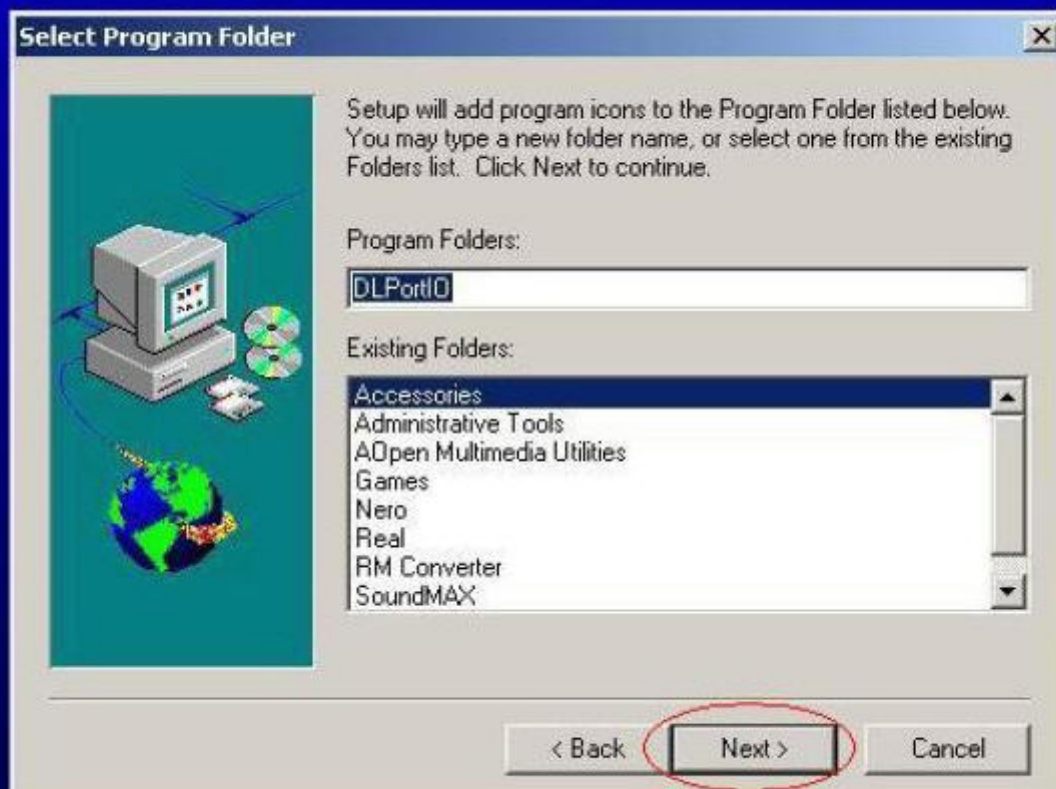

Fig. 0.5
0.5 Install completed , restart the PC or notebook. See Fig 0.5